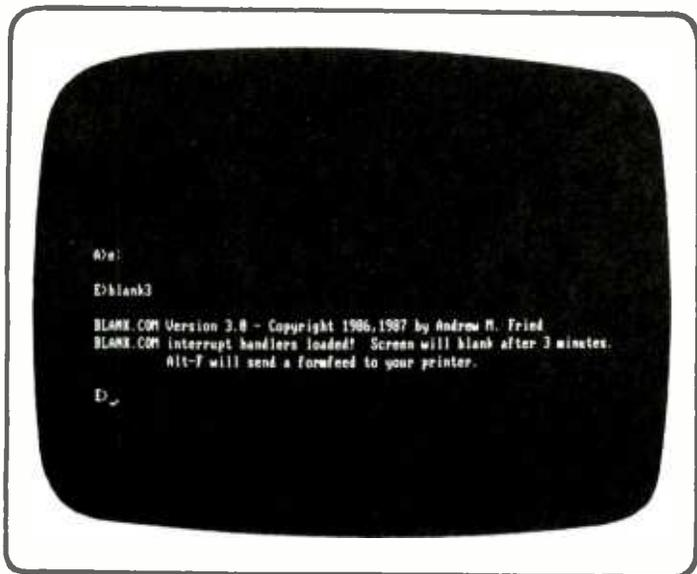

Fig. 7—The display tells the story. BLANK.COM darkens the screen in three minutes and can formfeed your printer.
**Fig. 7**—This diagram shows the position of the parts as viewed from the top of the board. Refer to the directions for circuit-board construction for the exact grid number for each lead.
1. Mount the IC sockets on the board (see Fig. 7). The first socket is mounted so that pin 1 is in hole F-8. The second socket is turned around so that pin 1 is on the other half of the board in hole E-17.
Another outstanding freebie utility came with a disk supplied with the premier issue of *Computer Shopper's PC-Clone Magazine*. This one resolved something that's been a pain in the tractor-feed since I got my first printer back in '79. The utility, called BLANK3.COM, has two separate functions, which are shown on the screen when the program initializes (Fig. 7). Firstly (and this seems to have been its original purpose) it blanks the screen if a key has not been depressed for three minutes. The display returns the instant any key is touched.